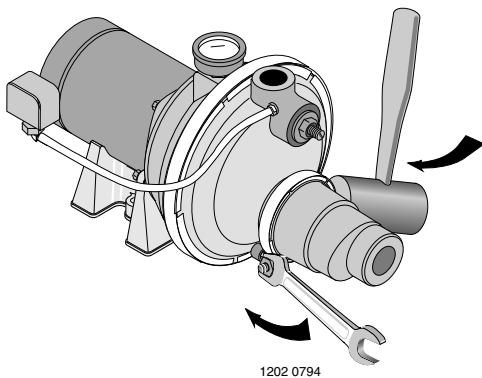

Figure 8: Install Ejector
2. Install ejector kit FP4875 or 29650 (kits are sold separately). Follow the instructions provided with the kit. Align the venturi with the top hole on the front of the pump (see Figure 8).